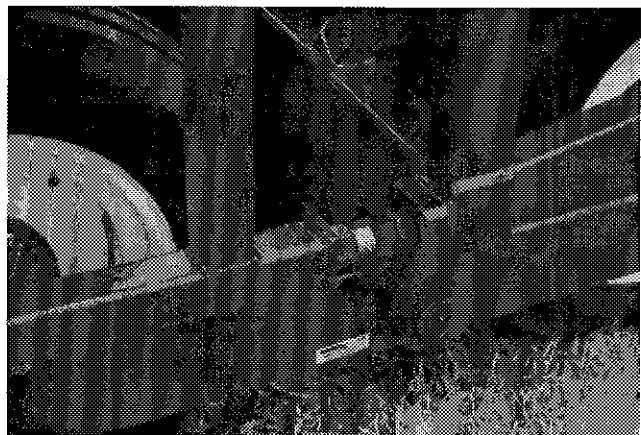

Figure 13
- 9) Check the ground clearance at the rear end of the inclined table (Figure 11), it should be approximately 2 to 3 inches. If necessary, adjust with the screws provided. (Figure 13) Make sure both sides are at the same elevation.